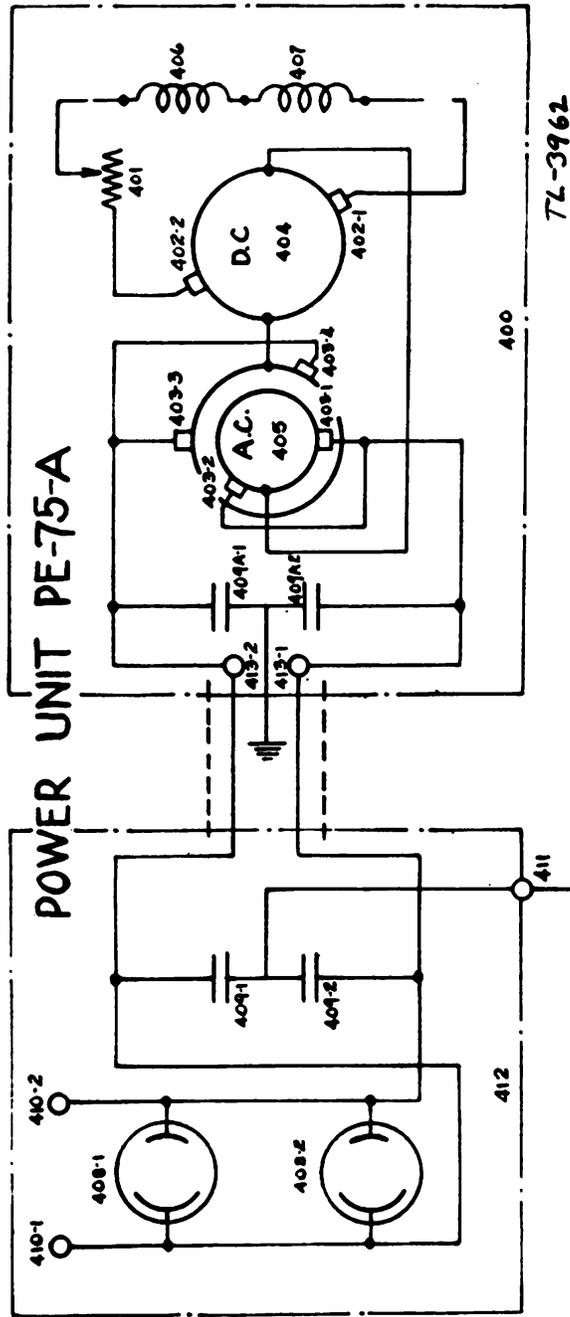

FIGURE 14.—Generator and filter, schematic diagram.
(4) *Circuit tests (fig. 14 and table I or II)*.—If the generator fails to deliver a-c output, proceed in the following order to check the generator circuits, after first making sure that all of the d-c and a-c brushes are making good contact with the commutator and collector rings, respectively (see par. 10b); that the brush springs have the required tension ((3) above); and that the surfaces of the commutator and collector rings are in good condition (see (1) above).
(h) A correct d-c voltage reading but no a-c voltage indicates that the connection from the commutator to the collector rings is broken (see fig. 14), and that the armature must be replaced. This is an uncommon cause of trouble.